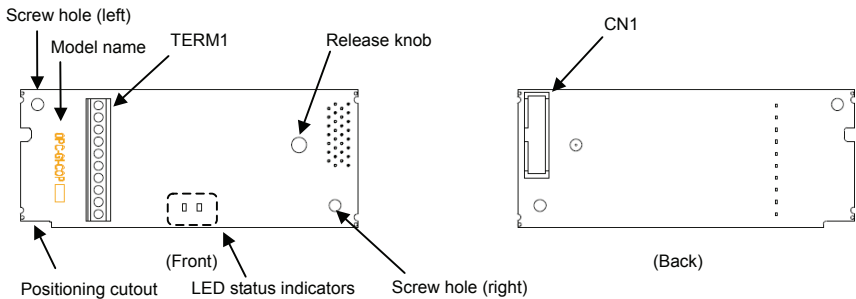
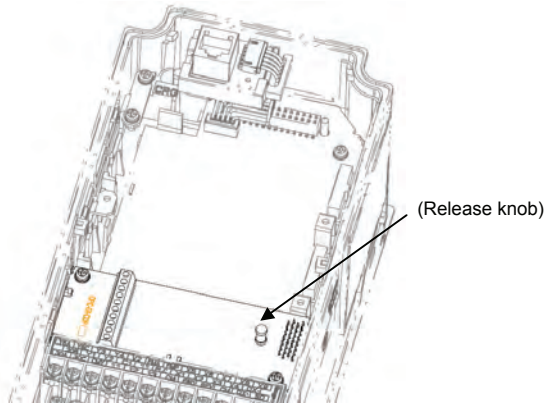

Figure 2.1 Names of Parts on CANopen Communications Card
Figure 3.3 Mounting Completed (on A-port)
- (1) A communications card, two screws (M3 × 8), and the CANopen Communications Card Instruction Manual (this manual) are contained in the package.
- (2) The communications card is not damaged during transportation—no defective parts, dents or warps.
- (3) The model name "OPC-G1-COP" is printed on the communications card. (See Figure 2.1.)
Figure 2.1 shows the names of the parts on the CANopen communications card.
- (2) Insert connector CN1 on the back of the communications card (Figure 2.1) into the A-port (CN4) on the inverter's control PCB. Then secure the communications card with the two screws that come with the card. (Figure 3.3)
Check that the positioning cutout (shown in Figure 2.1) is fitted on the tab (① in Figure 3.2) and connector CN1 is fully inserted (② in Figure 3.2). Figure 3.3 shows the communications card correctly mounted.
- (3) Perform wiring to the communications card.